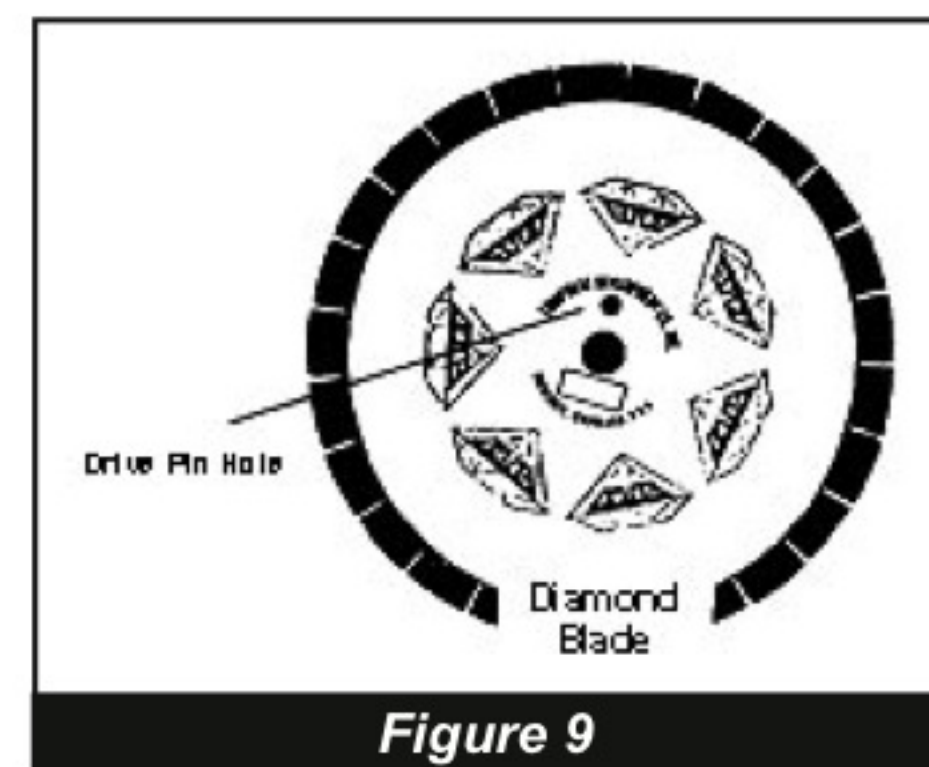

Figure 9
- Check diamond blades for cracks, loose segments and oversize, worn, or out-of-round arbor holes *(See Figure 5 on page 5)*. Do not use **any** questionable blade since serious injury and/or damage to property can result. Do not use warped, twisted, or out-of-balance blades. Unbalanced blades will wear excessively, vibrate and damage both arbor shaft and bearings. Do not use a blade without a drive pinhole *(Figure 9)*.
Inspect the blades before installing. Check diamond blades for cracks, loose segments and oversize, worn, or out-of-round arbor holes (*Figure 5 on page 5*). Do not use any questionable blade since serious personal injury and/or damage to property can result. Do not use warped, twisted, or out-of-balance blades. Unbalanced blades will wear excessively, vibrate and damage both arbor shaft and bearings. Do not use a blade without a drive pinhole (*Figure 9*).